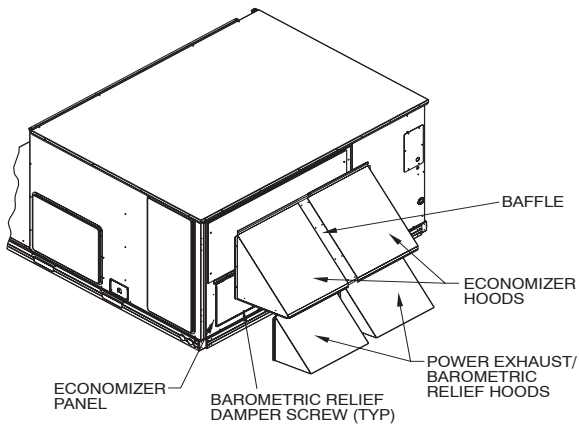

Fig. 19 – Hood Installation
3. The barometric relief dampers are secured to the economizer panel for shipping. Remove the screw holding the barometric relief damper to the panel for each damper. Dampers should be free to swing open during operation. (See Fig. 19.)
4. Hang the barometric relief/power exhaust hood on the mounting flange on the economizer panel. Secure hood to panel with screws saved from Step 2. Repeat for second hood. (See Fig. 19 and 20.)
5. Align hole in flange of economizer panel with left edge of hood. Hang economizer hood on the top flange of the economizer panel by rotating hood until top flange of the economizer hood engages the bent flange on the economizer panel. Rotate hood until hood is flush with the economizer panel. Hood will support itself from flange. Align holes in hood with holes in panel and secure hood to panel with screws saved from Step 2. Repeat for second hood. (See Fig. 19 and 21.)
6. Loosen screws securing clip on top of the flange of each opening. Rotate clip 180 degrees and tighten screw. Install 1-in. filter provided by inserting under the clip on the flange and letting filter drop behind bracket holding barometric relief hoods. Repeat for second hood. Install baffle between the outdoor air hoods with screws saved from Step 1. (See Fig. 19.)